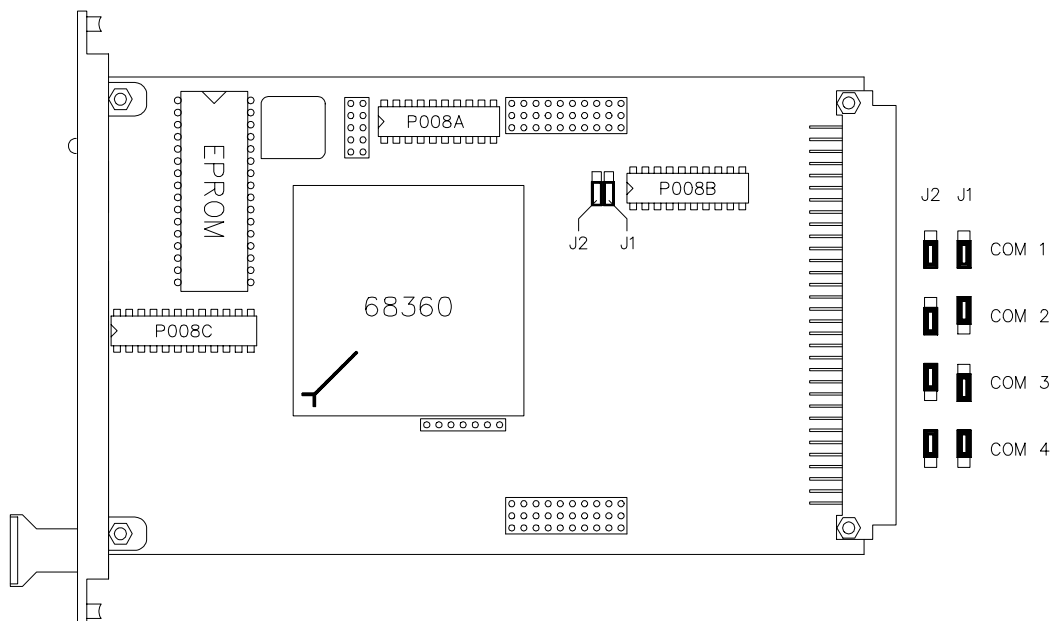

Figure 2 Jumper and EPROM positions on FSC communication board of 10008/3/P module
The FSC communication board (see Figure 2) consists of:
The FSC section of the communication module can operate as COM1, COM2, COM3 or COM4. This COM number is set using jumpers J1 and J2 on the FSC communication board (see Figure 2).
7. Set the jumpers (J1 and J2) in the desired position (see Figure 2).